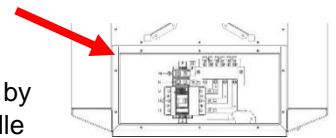

Figure 14
- On uninstalled charger, open AC Service Panel by using a T25 Torx t-handle screwdriver to remove all screws around panel’s perimeter (Figure 14).